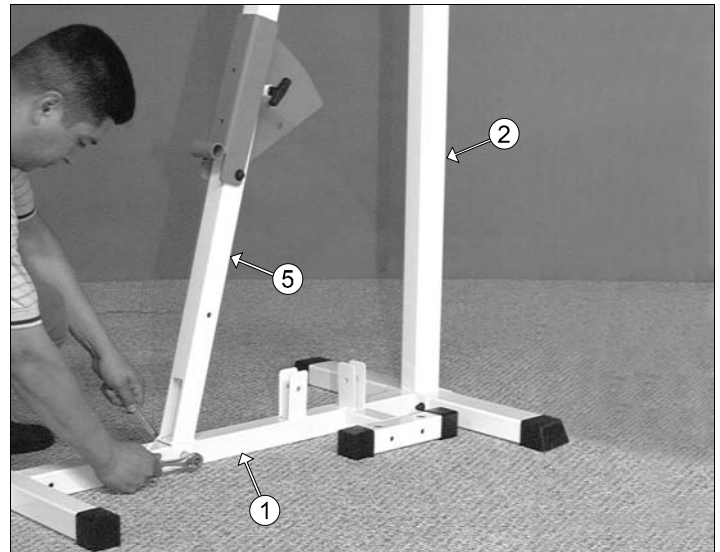
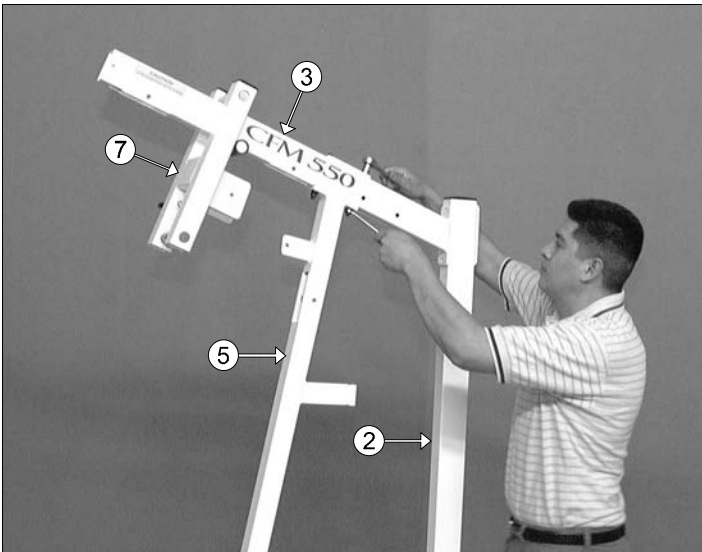

FIG. 9 **CAUTION:** It is recommended to use another person in assisting with this assembly.
FIG. 16  **Caution:** It is recommended to use another person in assisting with this assembly.
**Fully Fasten:** Proceed to align and fully fasten this hardware assembly and all the previous assemblies that were left loosely fastened. (Assemblies described in **Fig.7, Fig.9, Fig.10, and Fig.16**).